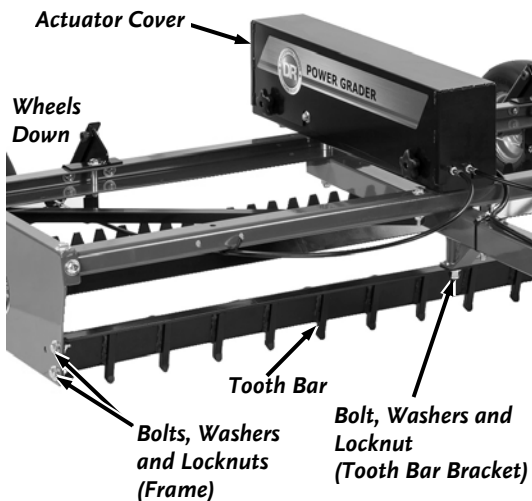

Figure 46
2. Remove the Bolts and Locknuts on both ends of the Tooth Bar using two 9/16" Wrenches (**Figure 46**).